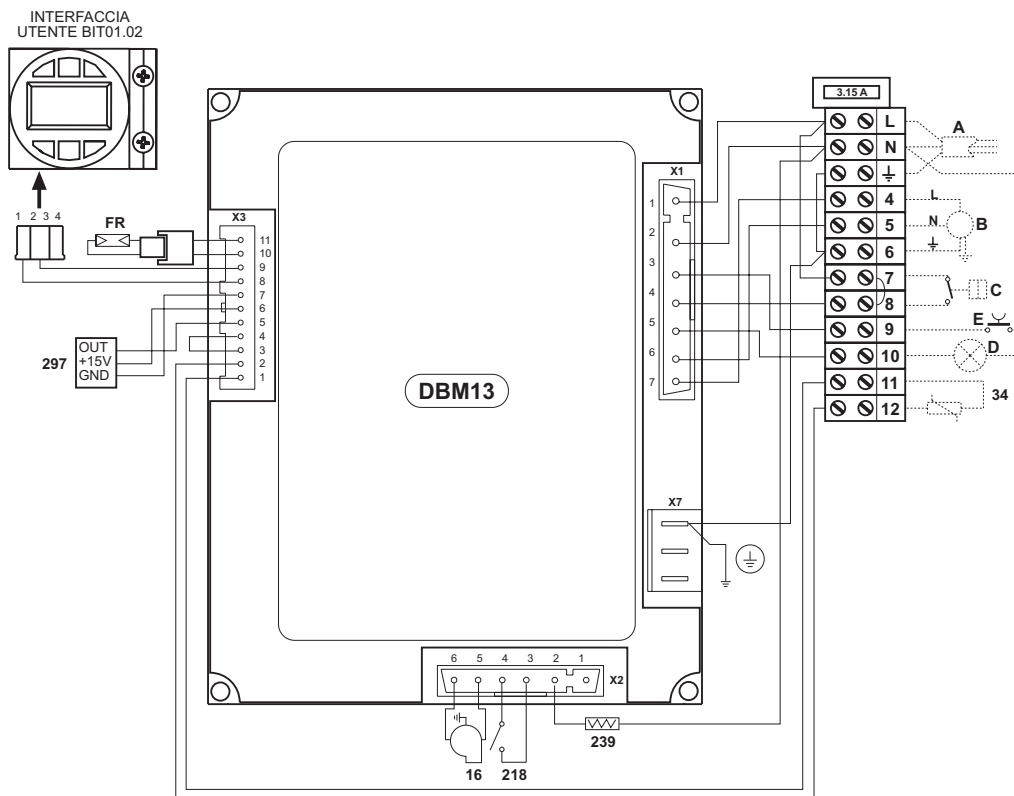
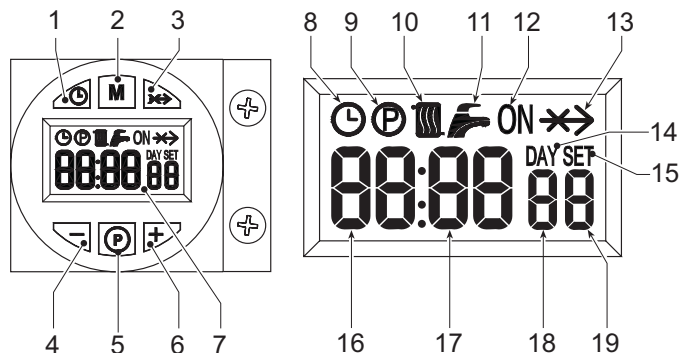

fig. 17 - Schema elettrico con morsetteria 12 poli
fig. 1 - Control panel
The lighting request (generated on closing of the contact on terminals 7-8 (see fig. 17), in default setting conditions) is indicated by activation of the radiator symbol (detail 10 - fig. 1).
1. Press the day/time setting button (detail 1 - fig. 1).
2. The CLOCK and DAY icons flash on the display (detail 7 - fig. 1); set the current day of the week with the + and - buttons (details 4 and 6 - fig. 1), considering that 1=Monday, 7=Sunday. Confirm the day by pressing the day/time setting button (detail 1 - fig. 1).
3. The two digits of the CURRENT HOUR and the CLOCK icon flash on the display (detail 7 - fig. 1); set the exact hour with the + and - buttons (details 4 and 6 - fig. 1), from 00 to 23. Confirm the hour by pressing the day/time setting button (detail 1 - fig. 1).
4. The two digits of the CURRENT MINUTES and the CLOCK icon flash on the display (detail 7 - fig. 1); set the exact minutes with the + and - buttons (details 4 and 6 - fig. 1), from 00 to 59. Confirm the minutes by pressing the day/time setting button (detail 1 - fig. 1). Automatic Heating, Manual On, Manual Off mode
Press the operation mode selection button (detail 2 - fig. 1) to set the:
1. In Automatic mode, the display (detail 7 - fig. 1) shows the CLOCK icon. The burner activation and deactivation request depends on the set weekly programme. In the request time band, the display (detail 7 - fig. 1) also shows the ON icon.
2. In Manual On mode, the display (detail 7 - fig. 1) only shows the ON icon. The burner is always in request status.
3. In Manual Off mode, the display (detail 7 - fig. 1) does not show the ON icon or the CLOCK icon. The burner is off.
The weekly programme is preset with 3 ON time bands and 3 OFF time bands; equal for every day of the week. In the request time band, the display (detail 7 - fig. 1) shows the ON icon.
1. Press the Programming button "P" (detail 5 - fig. 1)
2. Select the day to be programmed with the + and - buttons (details 4 and 6 - fig. 1):
3. Press the Programming button "P" (detail 5 - fig. 1):
- Use the + and - buttons (details 4 and 6 fig. 1) to modify the start of the 1st ON time band; e.g. 06:00 Press the Programming button "P" (detail 5 - fig. 1)
- Use the + and - buttons (details 4 and 6 fig. 1) to modify the start of the 1st OFF time band; e.g. 09:00 Press the Programming button "P" (detail 5 - fig. 1)
- Use the + and - buttons (details 4 and 6 fig. 1) to modify the start of the 2nd ON time band; e.g. 12:30 Press the Programming button "P" (detail 5 - fig. 1)
- Use the + and - buttons (details 4 and 6 fig. 1) to modify the start of the 2nd OFF time band; e.g. 14:00 Press the Programming button "P" (detail 5 - fig. 1)
- Use the + and - buttons (details 4 and 6 fig. 1) to modify the start of the 3rd ON time band; e.g. 16:00 Press the Programming button "P" (detail 5 - fig. 1)
- Use the + and - buttons (details 4 and 6 fig. 1) to modify the start of the 3rd OFF time band; e.g. 23:30 Press the Programming button "P" (detail 5 - fig. 1)
11. Press the Programming button "P" (detail 5 - fig. 1) for 3 seconds to exit the programming mode.
Press the programming button "M" (detail 2 - fig. 1) for 5 seconds to access the parameters menu. Parameter "u01", identified by the message SET 01, is displayed. Press the button "P" (detail 5 - fig. 1) to scroll the list of parameters.
To modify the value of a parameter, press the + and - buttons (details 4 and 6 - fig. 1): the change will be automatically saved. After modifying the parameter, it is necessary to wait 3 seconds: the datum item flashes and is saved.